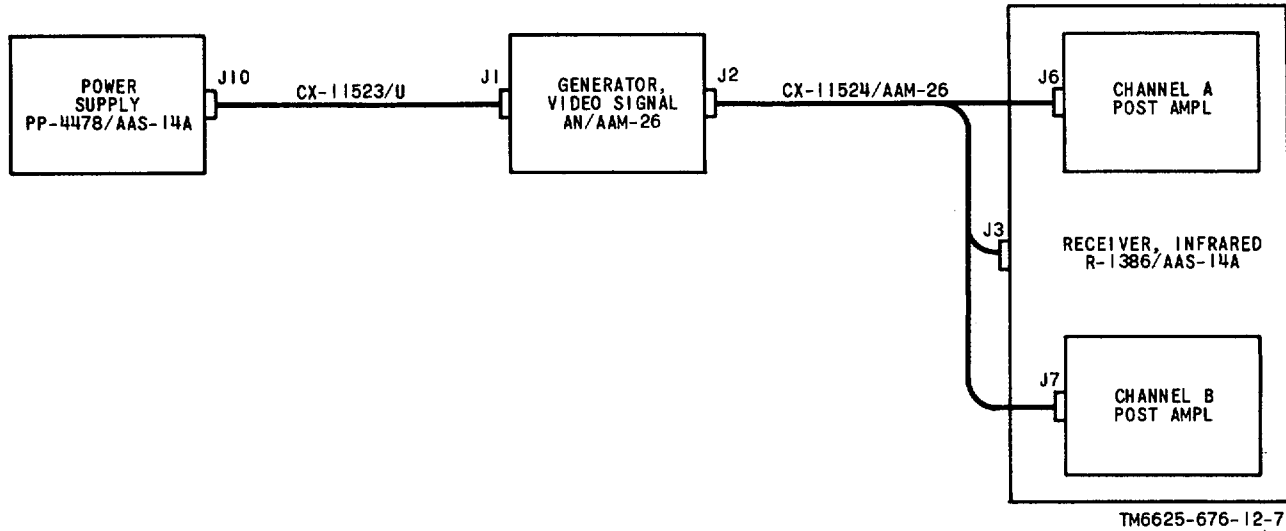

Figure 2-2. Interconnecting diagram for infrared detecting set tests.
a. When the video generator is used to test the infrared detecting set, connect the video generator group to Power Supply PP-4478/AAS-14A and Receiver, Infrared R-1386/AAS-14A as shown in figure 2-2. Connect the branched end of the signal cable as indicated in the following chart: